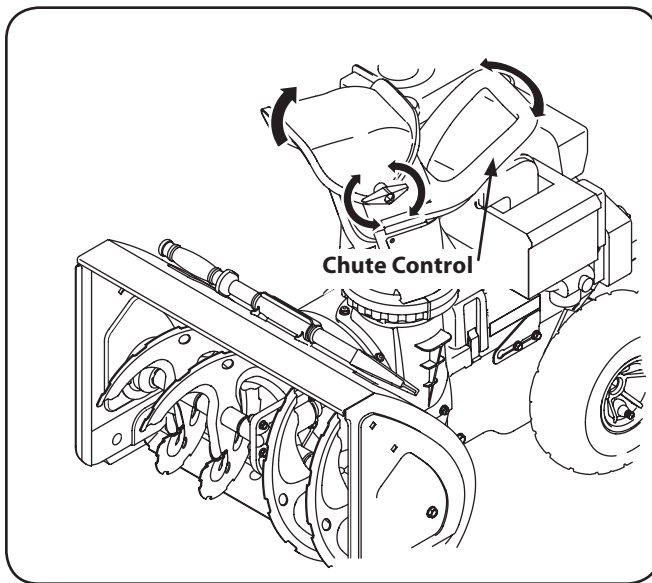

Figure 3-9
2. Tighten the wing knob on the upper chute making sure the carriage bolt is correctly positioned. Refer to Fig. 3-9.